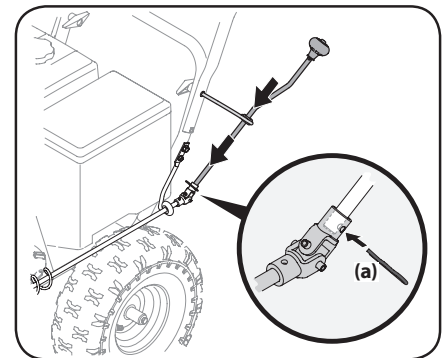

**Figure 2-12**
2. Close flange keepers to secure chute assembly to chute base. Flange keepers will click into place when properly secure. See Figure 2-12.